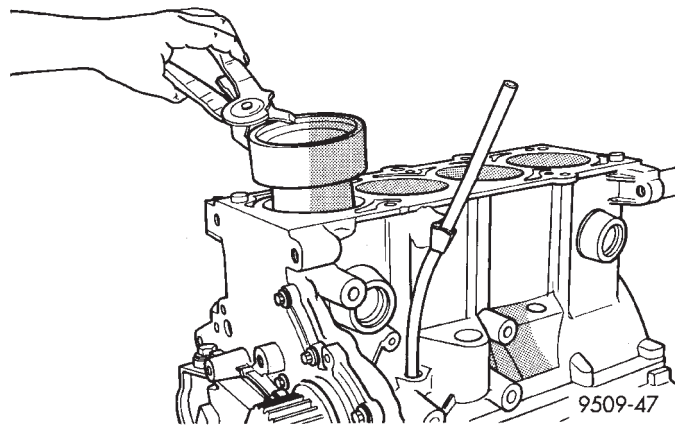

Fig. 81 Installing Piston
(3) Immerse the piston head and rings in clean engine oil, slide the ring compressor, over the piston (Fig. 81). **Be sure position of rings does not change during this operation.**